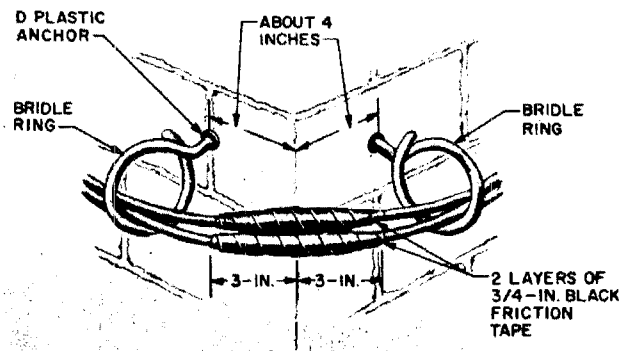

Fig. 1 – Bridle Ring
5.05 Fig. 1 through 9 illustrate spacing of typical wire runs using a variety of attachments.